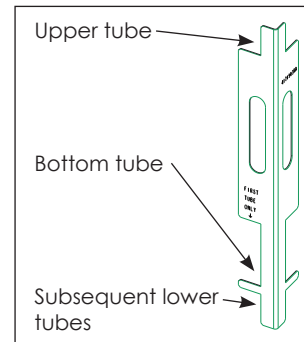
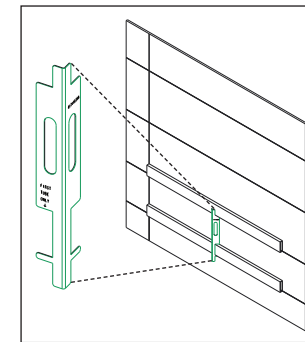
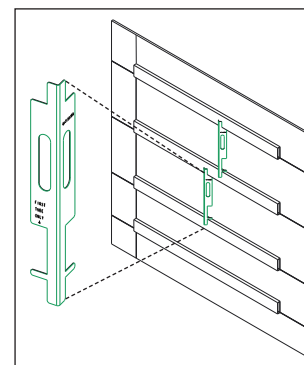

Figure 8: Horizontal Tube Layout Jig
Figure 9: Use Horizontal Tube Layout Jig for Bottom Row
Figure 10: Use Horizontal Tube Layout Jig for Subsequent Rows
- Use a horizontal tube layout jig (Daktronics part number 0M-4171903) between the bottom tube and the next tube to set and verify the vertical spacing between the two tubes. Place the jig on the face of the tubes so the bottom tube sits in the cutout at the bottom of the jig and the upper tube rests on the cutout at the top of the jig. Refer to **Figure 8** and **Figure 9**.
For all subsequent rows, place the jig on the face of the tubes so the lower tube sits below the cutout at the bottom of the jig and the upper tube rests on the cutout at the top of the jig. Refer to **Figure 8** and **Figure 10**.